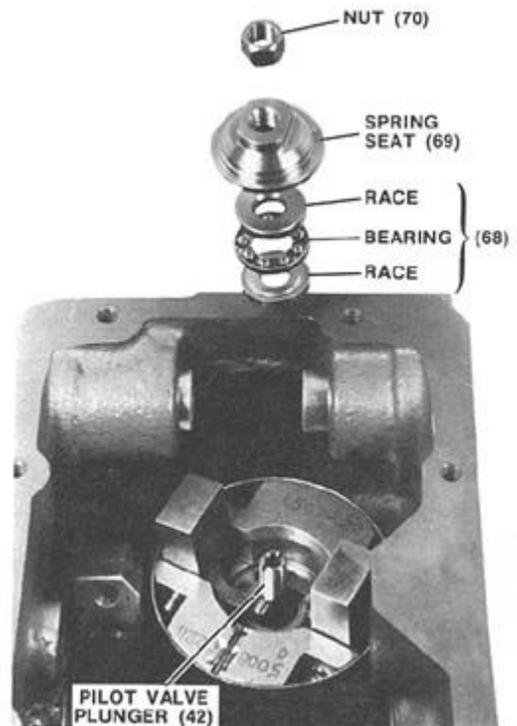

Figure 5-24. Thrust Bearing & Spring Seat Assembly
When pilot valve plunger is centered tighten nut (70) to 70 lb-in. See Figure 5-24.